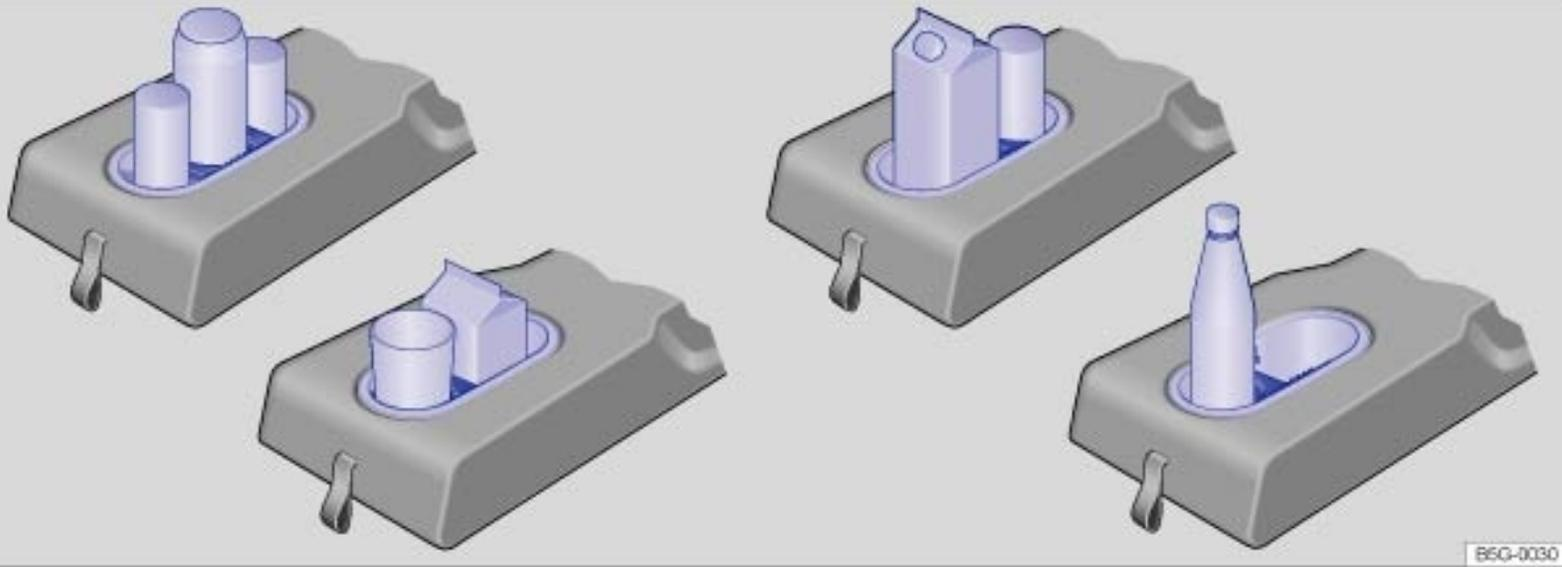
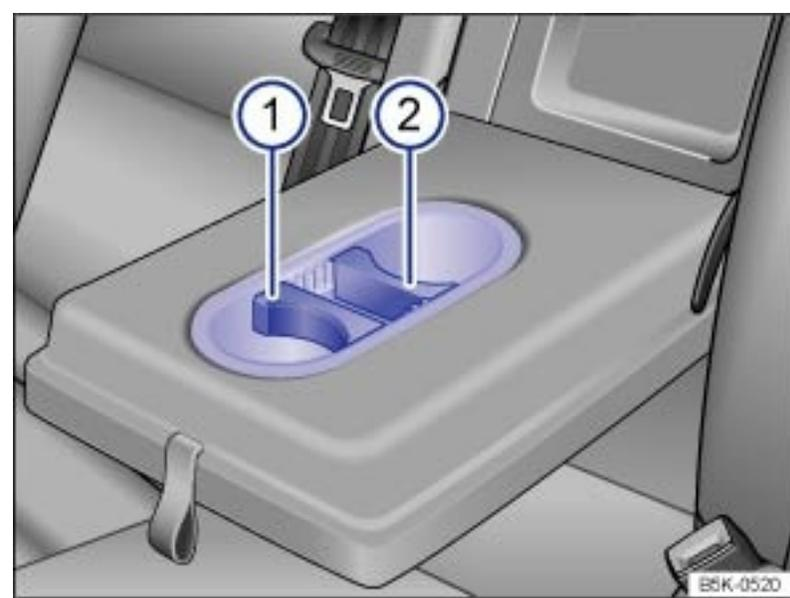

Fig. 128 Cup holders in rear center armrest: Examples of ways to adjust the cup holders for different purposes.
Fig. 129 Cup holders in the rear center armrest.
To adjust the cup holder to the size of the cup, pull the inserts → Fig. 129 ① or ② upward and reposition them to fit the size of the cup → Fig. 128. The inserts can be placed in different positions.